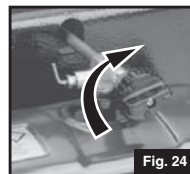

Fig. 24
- Close FUEL VALVE firmly. (Fig. 24)